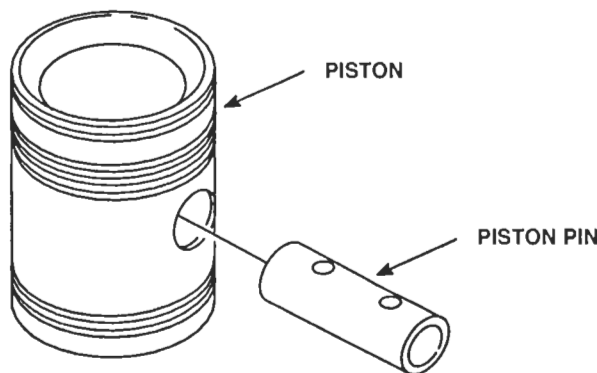

Figure 16. Piston Pin Installation
6. Lubricate the piston pin with the engine oil/STP mix and install it (Figure 16.)